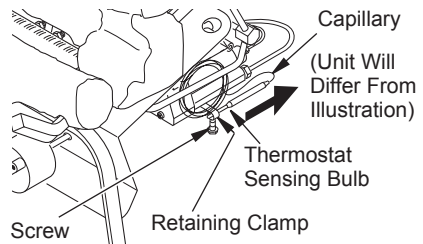

Figure 60 - Removing Thermostat Sensing Bulb
2. With 5/16" hex driver or socket, loosen the thermostat screw. Carefully slide the thermostat sensing bulb out of the retaining clamp (see Figure 60).